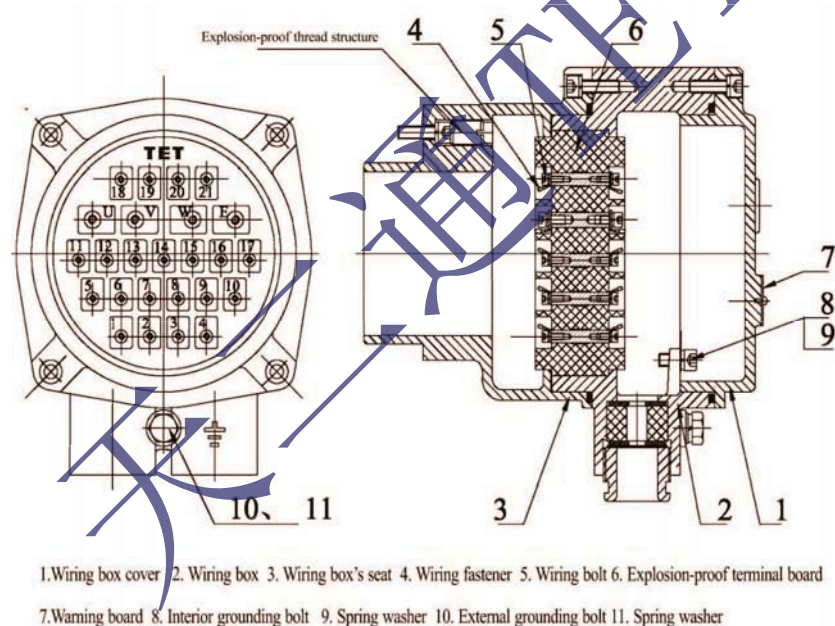

Fig.1
5.2.1 Please open No.1 “Wiring box cover” (Fig.1) and remove No.11,12,13,14(Fig.2)